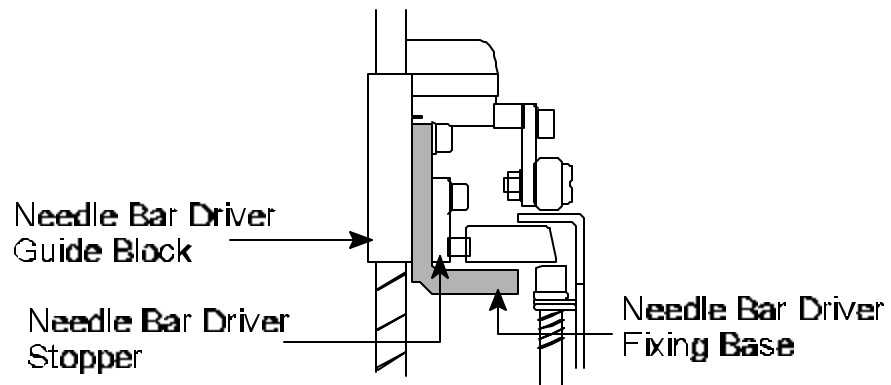

Figure 8
21. **Position** Needle Bar Driver Fixing Base to Needle Bar Driver Guide Block. See *Figure 8*.